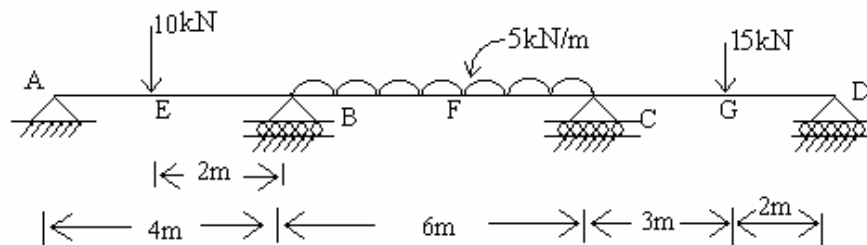

Fig.2
3. Analyze the continuous beam of constant flexural rigidity shown in Fig.2, using theorem of three moments. Draw shear force and bending moment diagrams. Mark the location of maximum bending moment and points of contraflexure and hence draw elastic curve. [16]